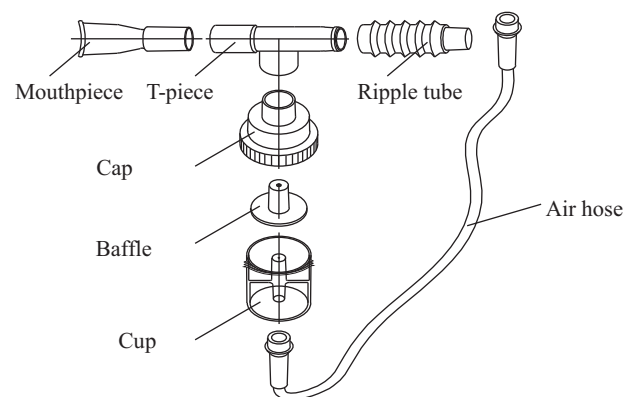

Figure 8: Nebulizer Components
- ▶ After finishing cleaning, must dry all the components before storage. (Nebulizer installment is shown in figure 8).
- 1) After nebulizing, remove the nebulizer from oxygen concentrator. Turn off the oxygen concentrator, disconnect the hose, remove the cap, disassembly the nebulizer as shown in Figure 8.